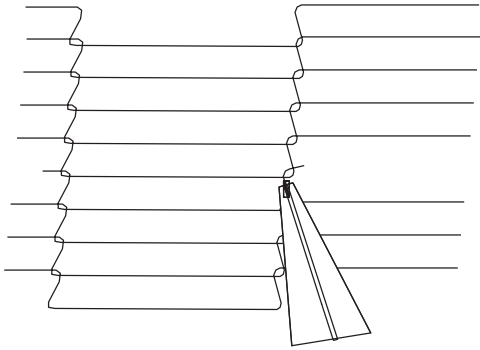

Figure 4-29
6. Reconnecting the inside master links (Figure 4-29)